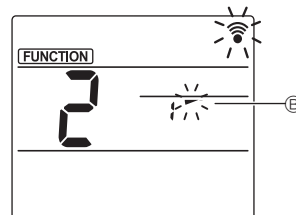

Fig. 3
③ Stille inn spjeldvinkelen (fig. 3)